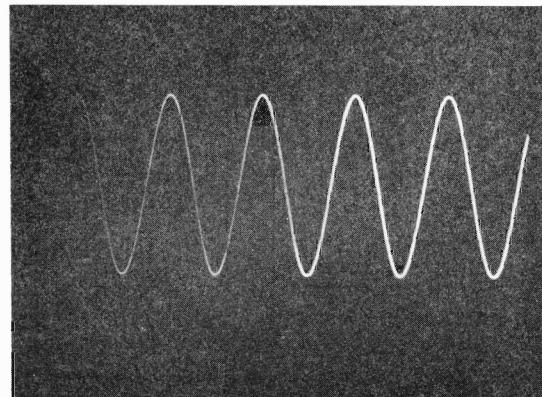

Figure 3-4. Variable persistence with a slow, repetitive sweep
- b. For variable persistence operation, use minimum INTENSITY and maximum PERSISTENCE compatible with the desired display. (See Figure 3-4.)